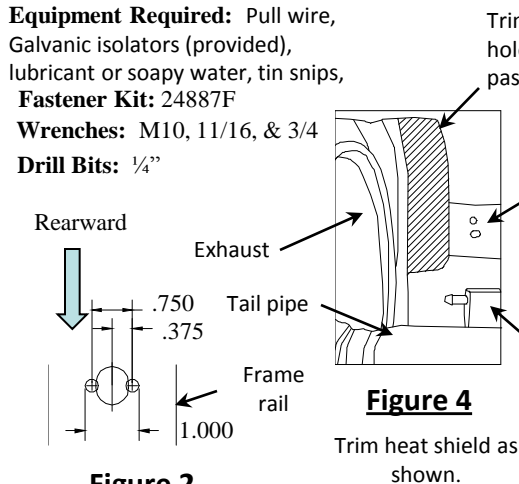

Figure 4
- Remove rearward m6 bolt holding heat shield in place. Return to owner. Trim heat shield for access to hole on passenger frame rail. Fig 4